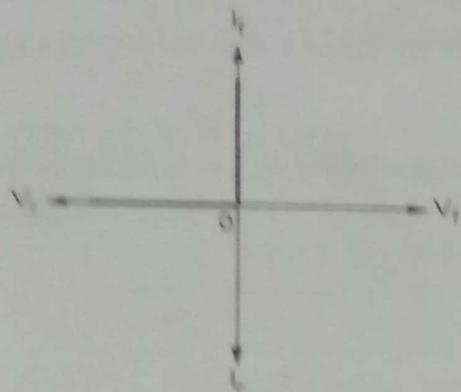

Fig. 1.1
- Characteristics of ideal diode are shown in the Fig. 1.1.